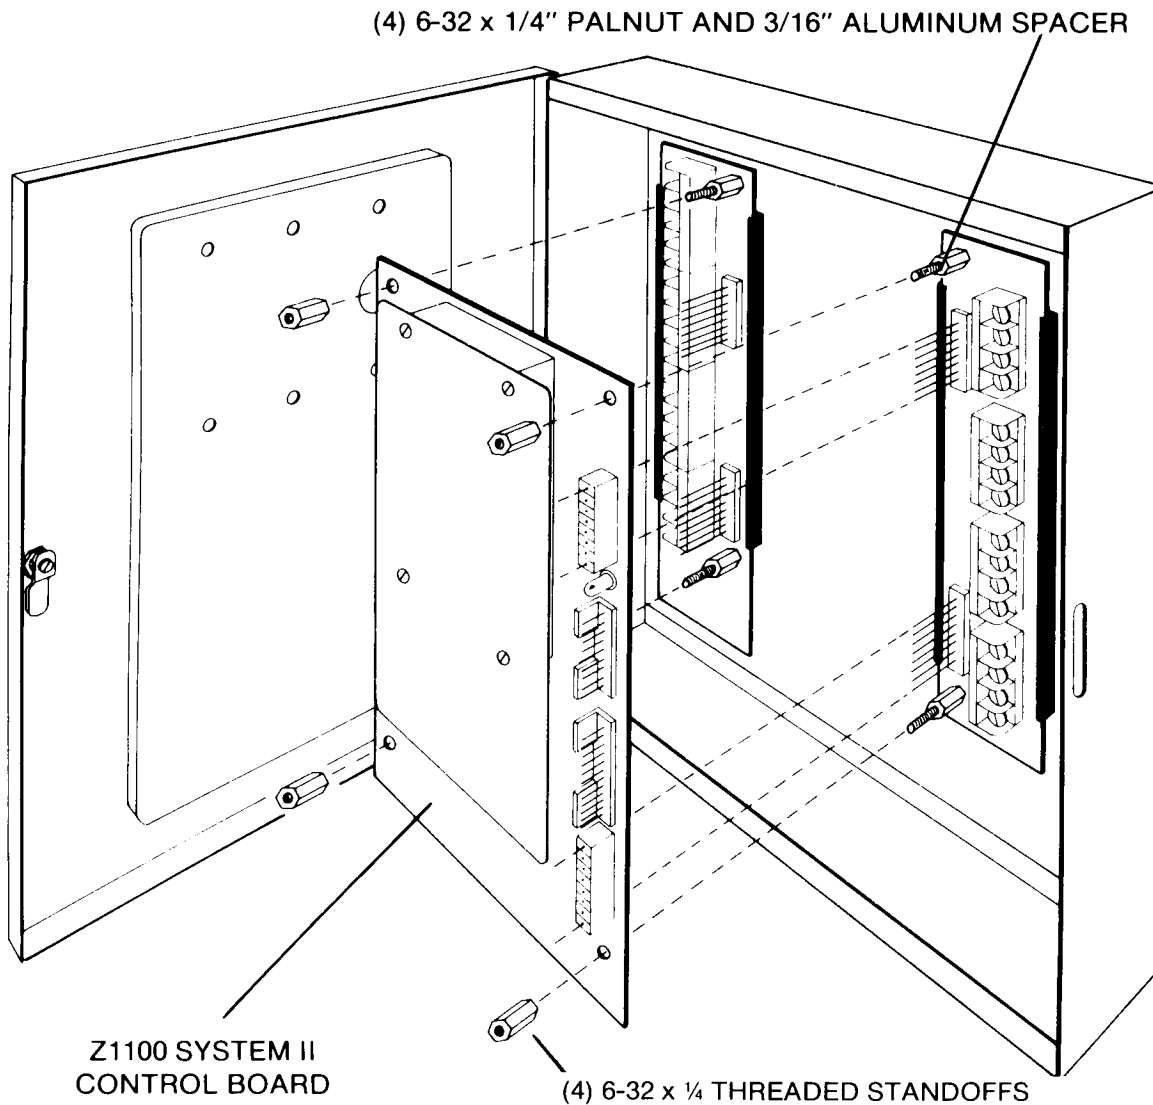

Figure 2-13 Control Board Installation
2. Plug in the Z1100 System II control board and secure. (See Figure 2-13)